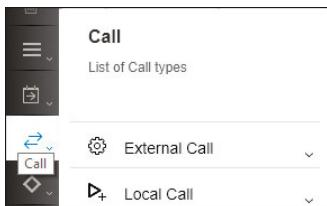

Figure 6.33 The Call Submenu from the Palette
1. In the palette, click the **Call** icon  to open the **Call** submenu (Figure 6.33).